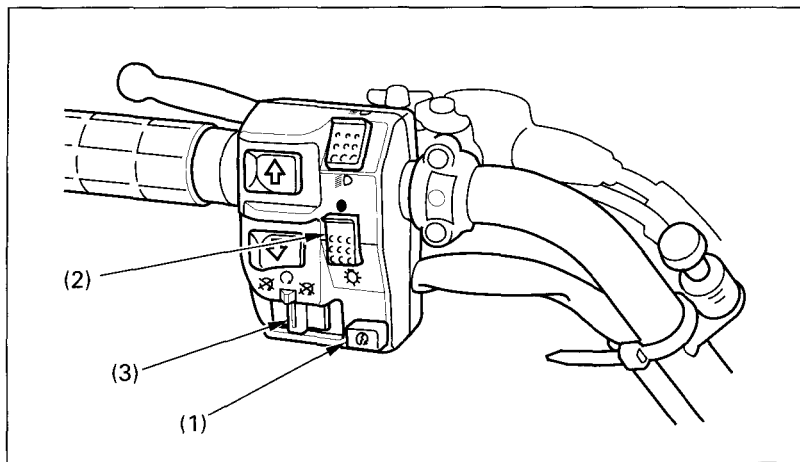

Fig. 2-8
The starter button (Fig. 2-8 ) is below the headlight switch (2). To start the engine, press the starter button (1), with the transmission in neutral, the ignition switch ON ( I ) and the engine stop switch (3) at RUN ( O ).